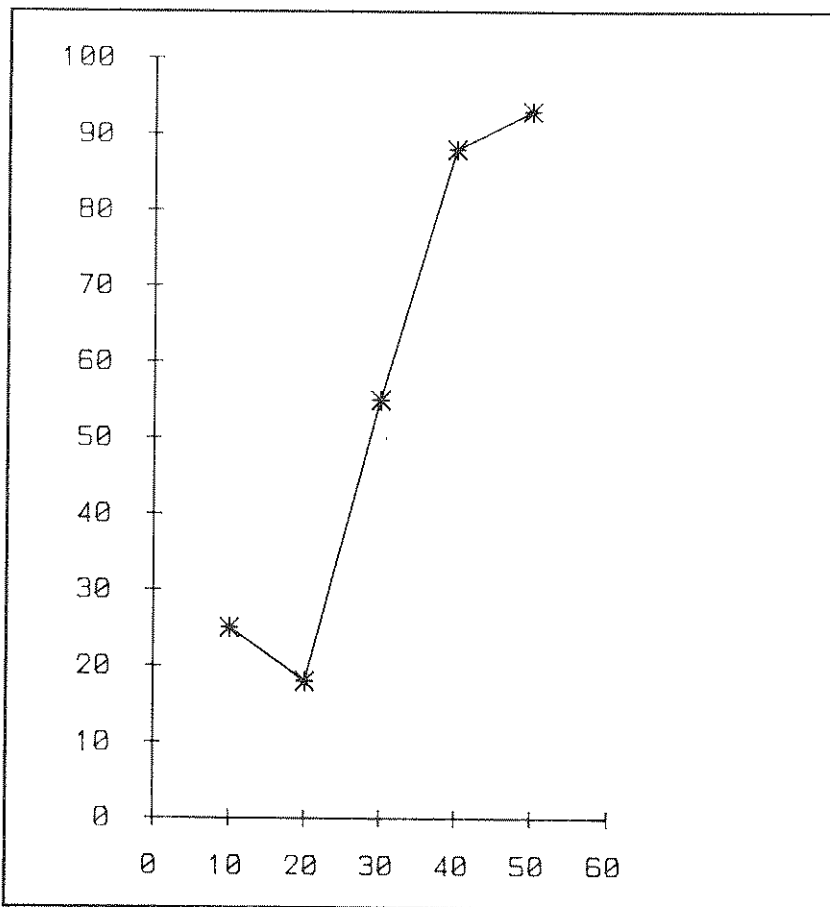
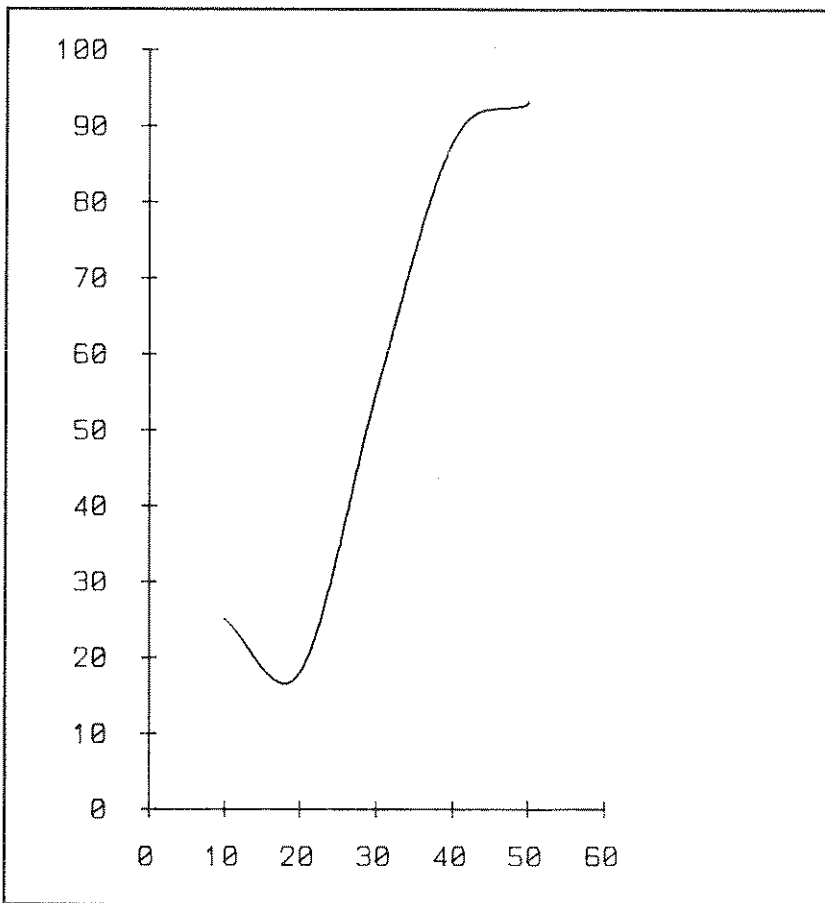

Figure 5-3. Absolute (AM), relative (RM) line and mark commands
Figure 5-4. Curve absolute (VA) and curve relative (VR) commands
In the following example, both commands produce the same results: they draw a line connecting five points on a graph. The only difference is that the AM command uses absolute coordinates and the RM command uses relative coordinates. Note the move absolute (MA) command before the relative line and mark command starts the line from a known position. Figure 5-3 shows the results of these commands (on the axes drawn earlier).
The following examples plot the same points used with the line and mark commands in Figure 5-3. Since *type* has a value of 0, the curve is open. Figure 5-4 shows the results.